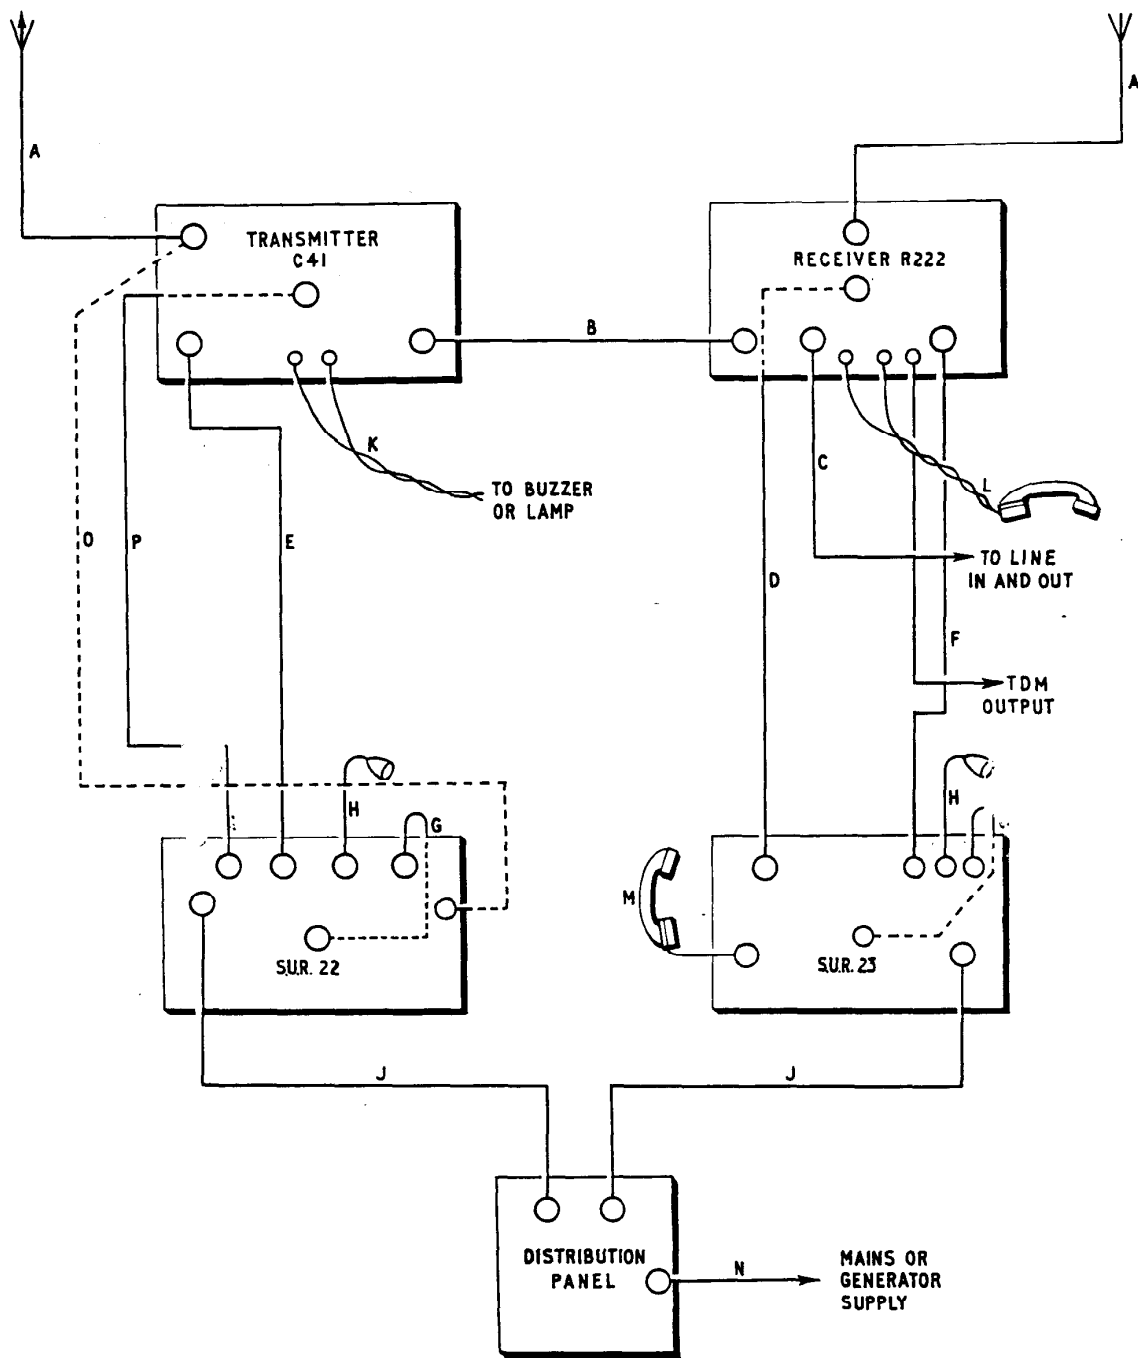

FIG.7 DIAGRAM OF CONNECTIONS
(KEY TO FIG. 7)
- (1) Check that all connectors are in place and that the locking rings are firmly tightened by hand. (See Fig. 7 on the opposite page for diagram of connections).